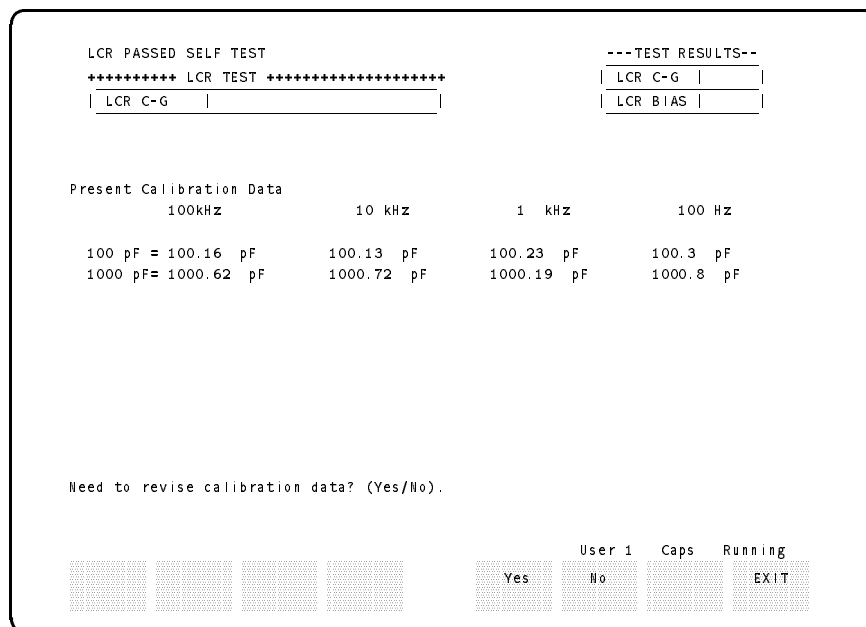

Figure 2-47. LCR C-G Test Page
- When the Short Self-Test and Zero Short Offset Adjustment completes, the capacitance calibration data of the system calibration module is displayed (see Figure 2-47).